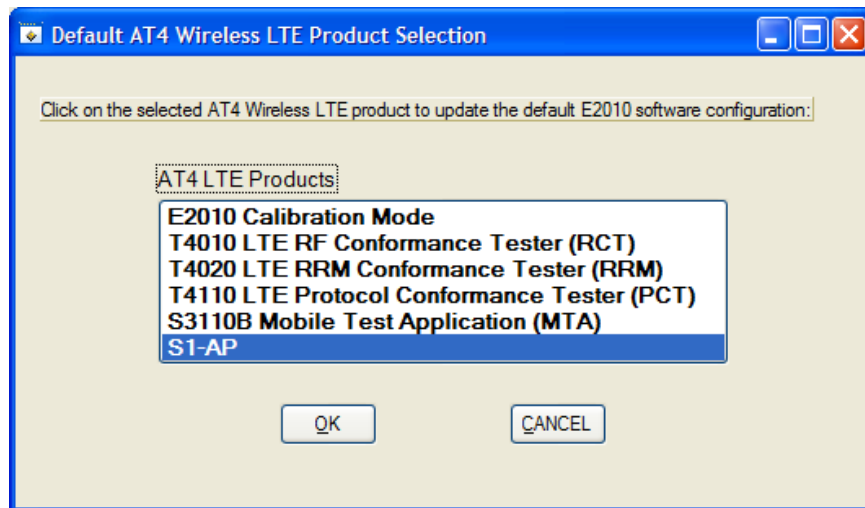

Figure 2-34: Default AT4 Product Selection Window
4. In the *Default AT4 Wireless LTE Product Selection* window, select **S1-AP** and click **OK**, as shown in Figure 2-34.